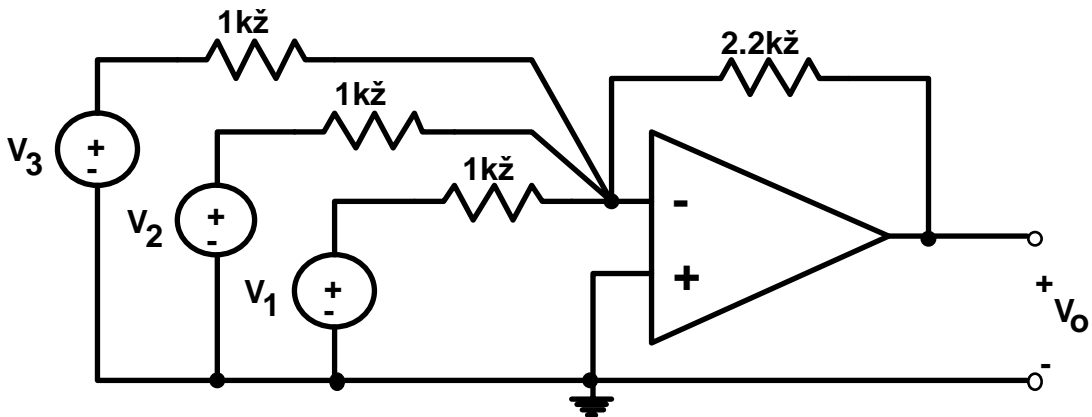

Figure 8.5
(II) The circuit shown in Figure 8.5 is referred to as an *inverting summer*. Calculate the output voltage in terms of the three input voltages assuming an "ideal" op amp.